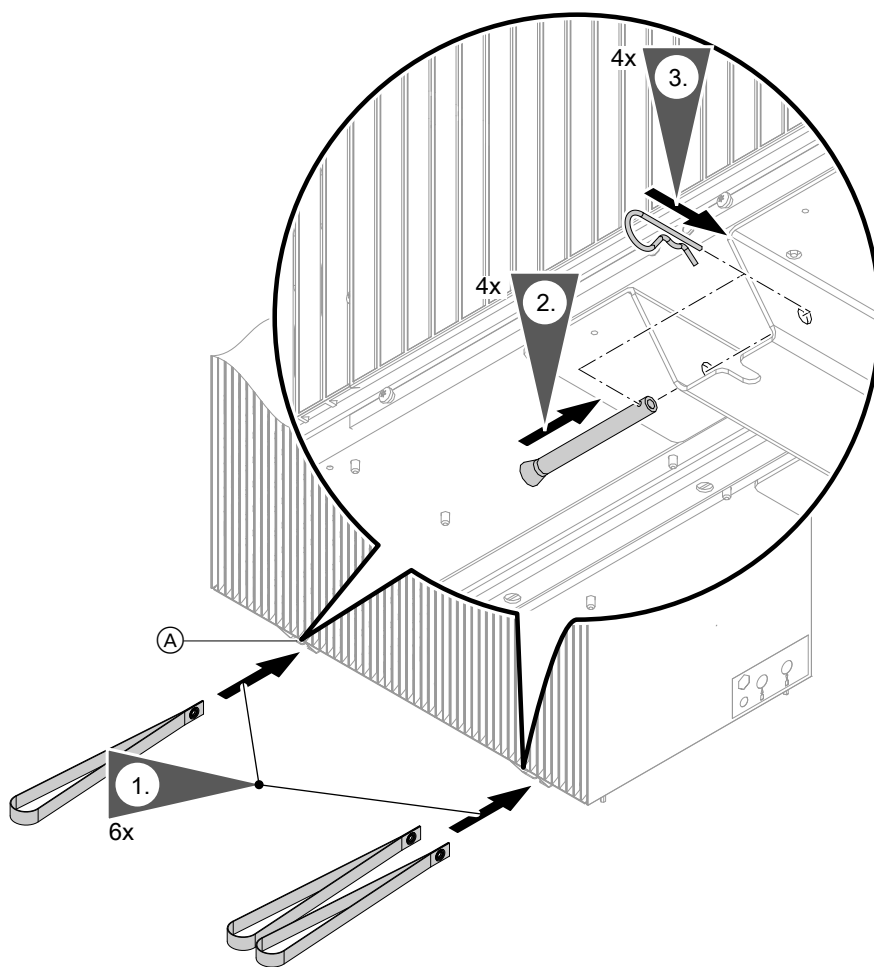

Fig. 5
- Outdoor units with 2 fans: Due to the unequal weight distribution at the front and rear, 1 transport aid on the left-hand mounting rail and 2 transport aids on the right-hand mounting rail: See Fig. 5.